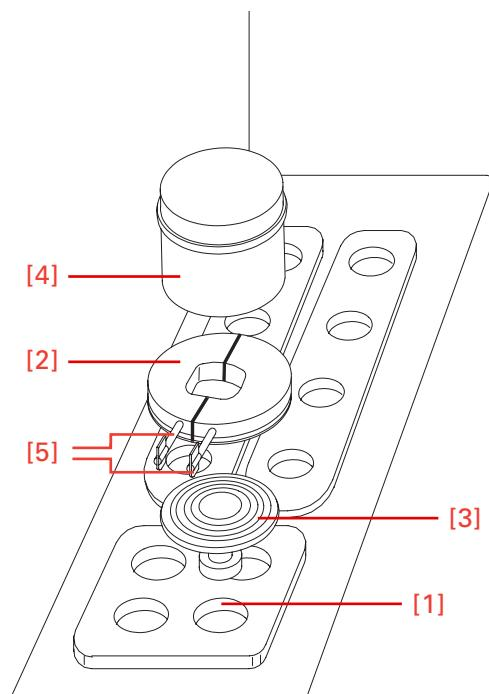
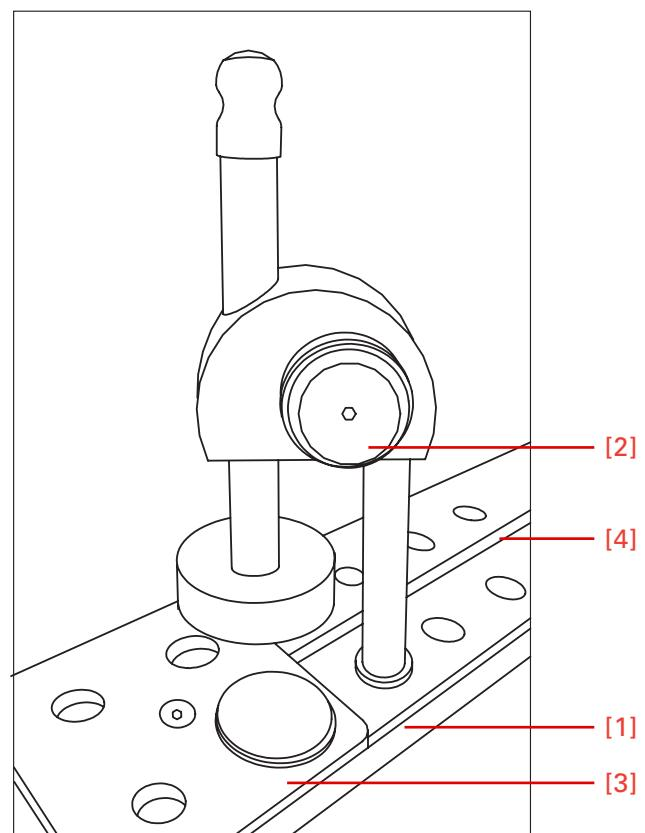

Figure 20a. Heat Extractor.
Figure 20b. Heat Extractor.
Two different heat extractors (fig. 20a and fig. 20b) are available:
Heat extractor (fig. 20a)
- Insert the chuck (fig. 20a.3) into the fast freezing rail (for standard version) or into the rail with Peltier element (for versions with option P).
- Then insert a cryo mold (fig. 20a.2) onto the chuck (30 or 40 mm).
- The heat extractor (fig. 20a.4) is placed horizontally onto the specimen.
Heat extractor (fig. 20b)
- Insert the heat extractor (fig. 20b) into the fast freezing rail (fig. 20b.1).
- To pre-cool the heat extractor, turn the knob (fig. 20b.2) to lower the heat extractor onto the fast freezing plate (fig. 20b.4).
- Turn the knob (fig. 20b.2) to lower the heat extractor onto the specimen (fig. 20b.3).
- Further turn the knob (fig. 20b.2) to increase the pressure onto the specimen. Carefully observe this process to avoid a possible deformation of the specimen.
- To loosen the heat extractor, turn the knob (fig. 20b.2) in opposite direction.